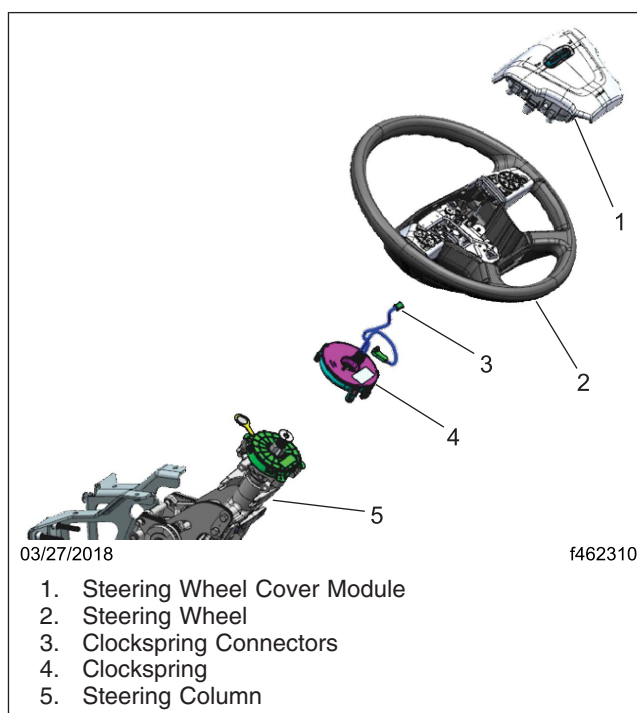

Fig. 18, Steering Wheel Cover Module, Steering column and Clockspring
- 17.2 Disconnect the clockspring connector from the right hand (RH) switch pod. See Fig. 18.